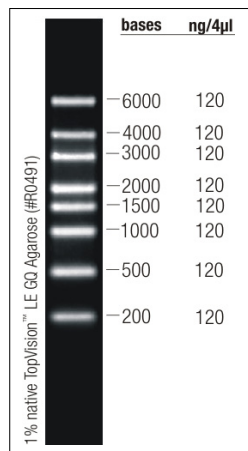

Fig. 3. RiboRuler™ RNA Ladder, High Range, ready-to-use.
- Use RiboRuler™ RNA Ladder, High range, ready to-use (Fig.3), provided with the kit for the sizing and approximate quantification of the transcript.